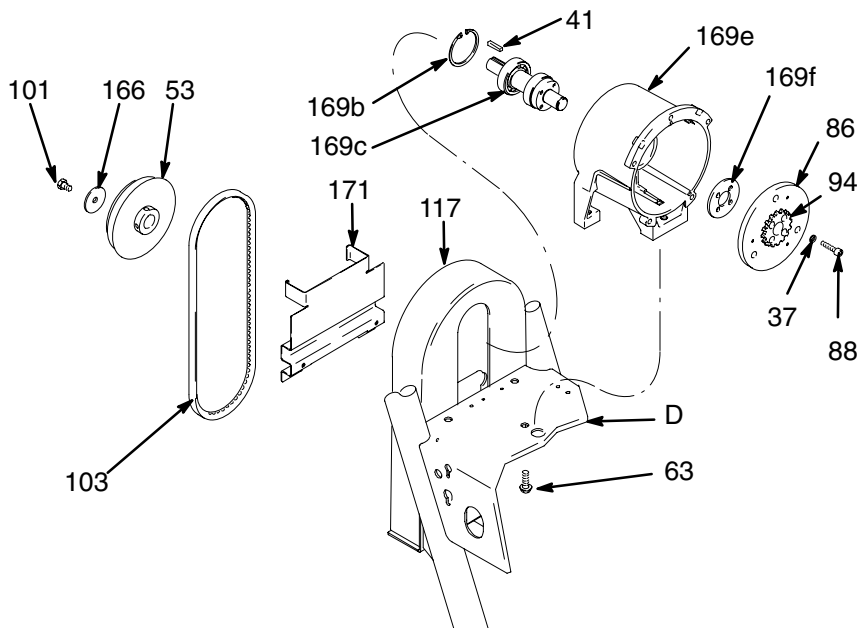

Fig. 9
9. Fig. 9. Remove belt guide bracket (171), belt guard (117) and vee belt (103).
10. Hold pulley (53) and remove four screws (88) and washers (37) from hub (94). Remove armature (86) and spacer (169f).
11. **Engine Detail**, page 20. Remove screw (101) and washer (166) from engine drive shaft. Remove pulley (53) and motor shaft sleeve (170). Remove pulley and key (41).
12. Fig. 9. Remove three screws (63) from beneath mounting plate (D).
13. Lift off clutch housing (169).
1. Fig. 9. Install jack shaft assembly (169c). Install retaining ring (169b).
5. Fig. 9. Place spacer (169f) and armature (94, 86) on jack shaft assembly (169c).
6. Install three screws (63) through mounting plate (D) and into clutch housing (169).
7. Apply Loctite® to screw (101). Install screw, washer (166), key (41) and pulley (53) in end of jack shaft assembly (169c). End of jackshaft (169c) must be 0.090 in. below flush with end of bushing.
8. Hold pulley (53) and install four screws (88) and washers (37) in hub (94). Torque to 125 in-lb (14 N·m).
9. Install belt guard (117), belt guide bracket (171) and vee belt (103).